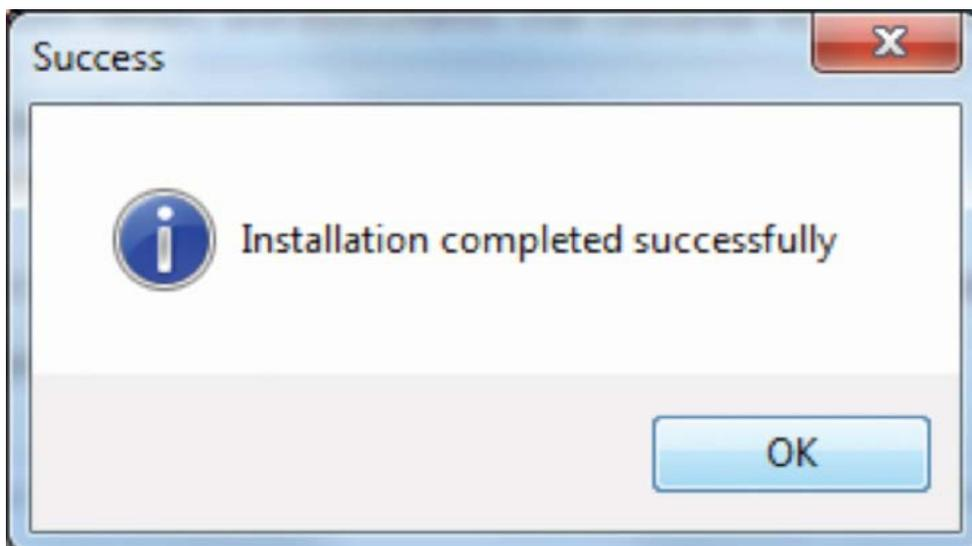

Figure 42: Drivers Successfully Installed
8. Upon the successful completion of the installation, the screen shown in **Figure 42** will appear. Select "OK" to continue.